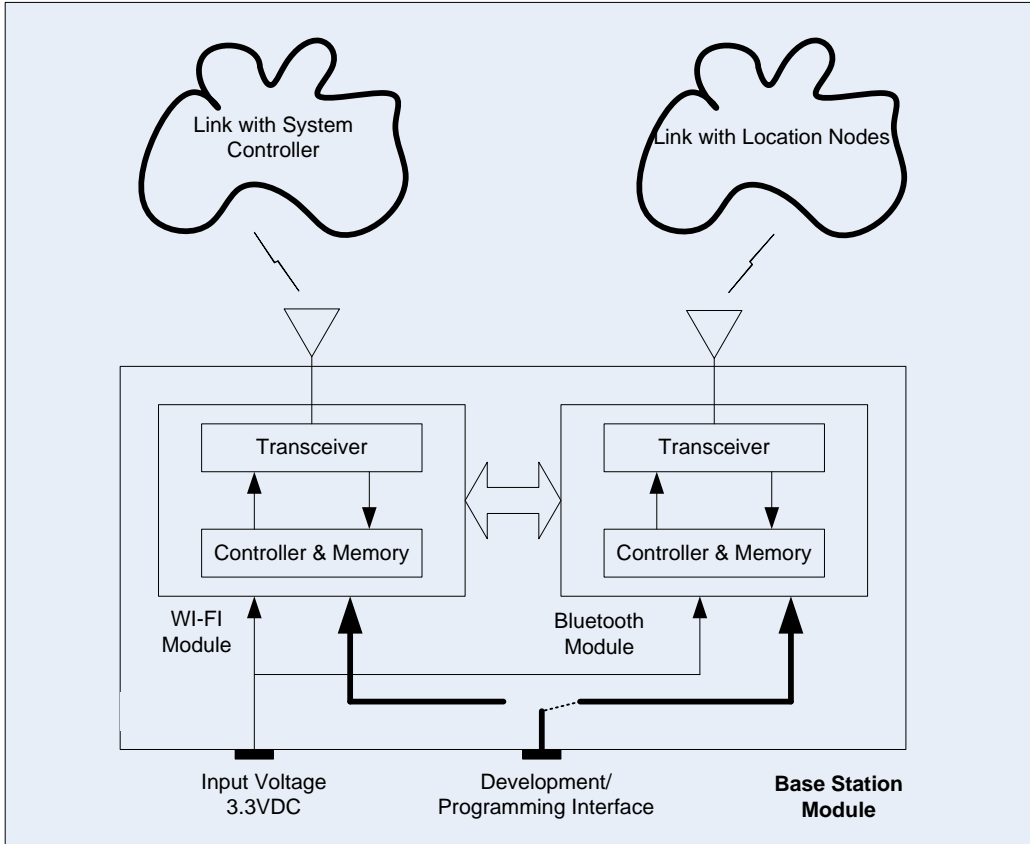

Figure 2. SiteWERX Base Station, Wireless Block Diagram
- Figure 2. SiteWERX Base Station, Wireless Block Diagram..... 3**
The SBS-W consists of a Bluetooth Module and antenna for Bluetooth operations, and a WI-FI controller, transceiver and antenna for communications with the SiteWERX Controller. A functional block diagram of the SBS-W is shown in Figure 2